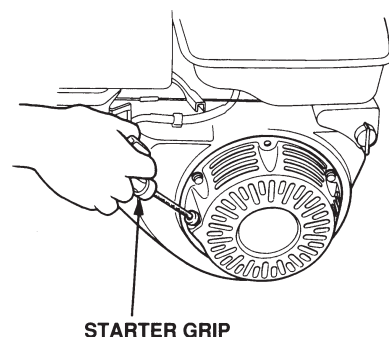

Figure 19. Starter Grip
- Pull the **starter grip** (Figure 19) lightly until you feel resistance, then pull briskly. Return the starter grip gently.